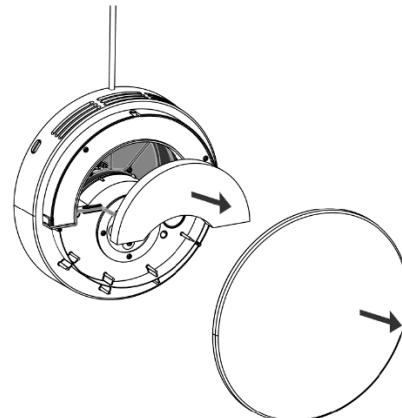

Figure 29 - Remove the internal filter
2. Remove the internal cover. Take out the old filter and remove any dirt with a dry rag, see Figure 29 below. The spent filter can be disposed of as household waste.